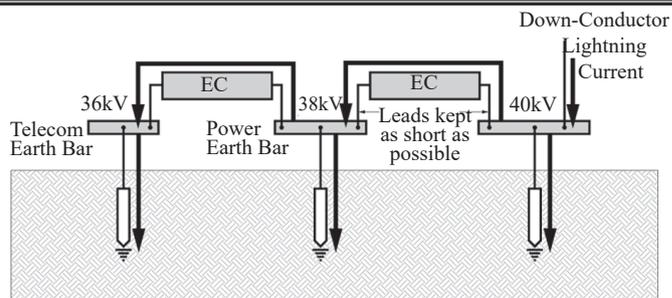

Figure 3.3: Best practice using earth clamps
3.3 Best practice using earth clamps: In Figure 3.3 the three earth bars are connected together using earth clamps. During a typical lightning strike the earth bars reach 36kV, 38kV and 40kV, so there is a maximum of only 4kV potential difference between them. The most important aspect is that the earth bars are close together and the lead lengths on the earth clamps are as short as possible.